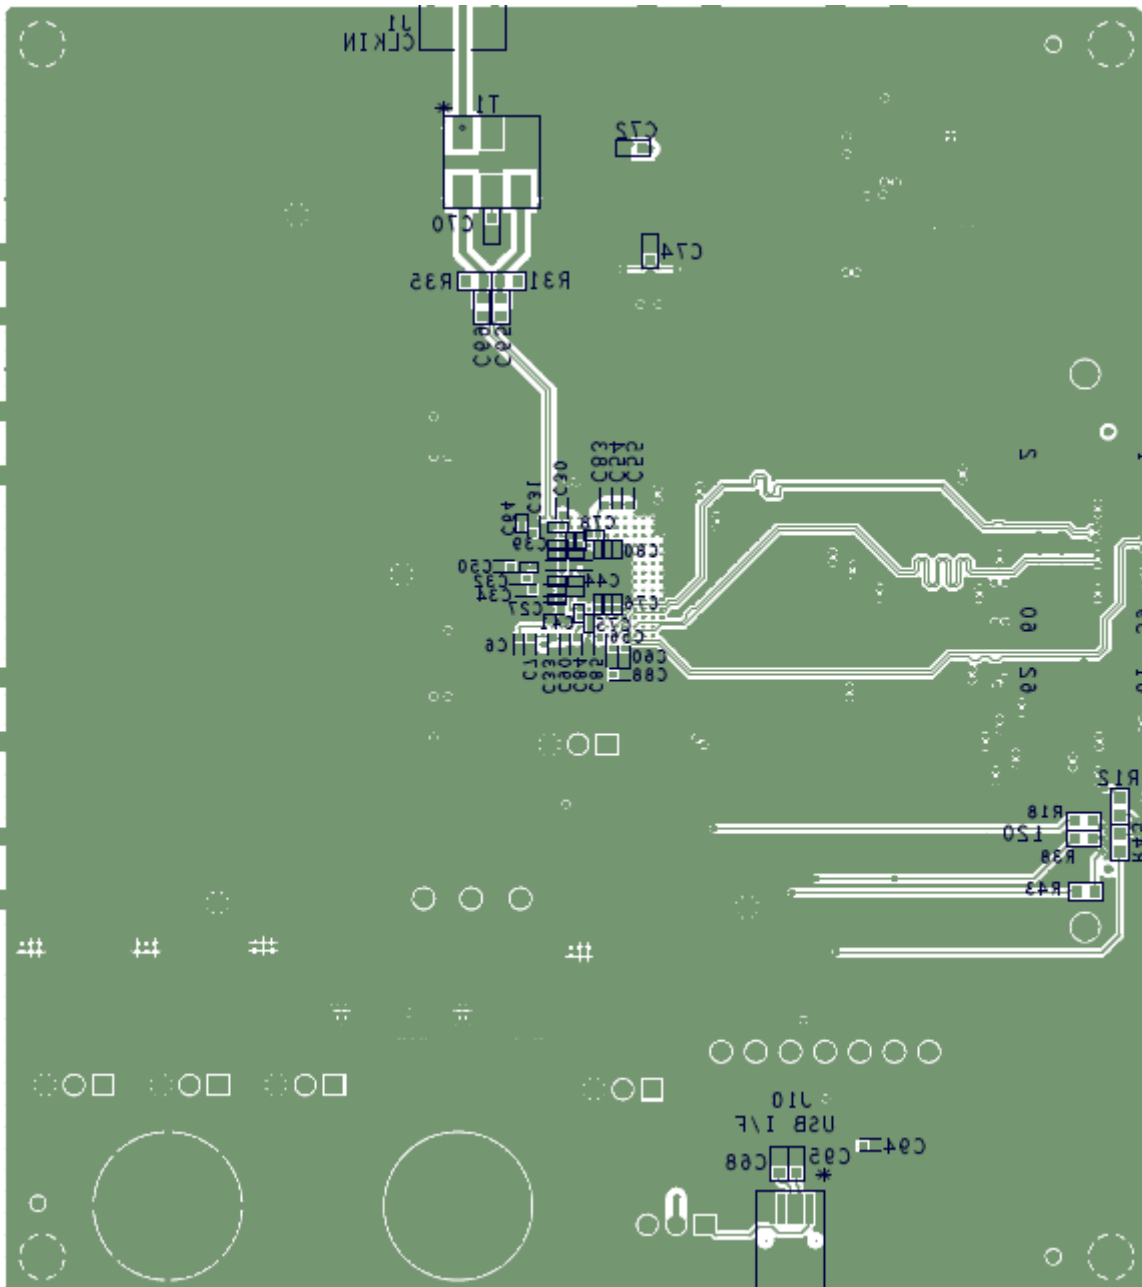

Figure 66. Bottom Layer
- In the device pinout, the sampling clock is located on a side perpendicular to the analog inputs in order to minimize coupling between them. This configuration is also maintained on the reference layout of Figure 66 as much as possible.